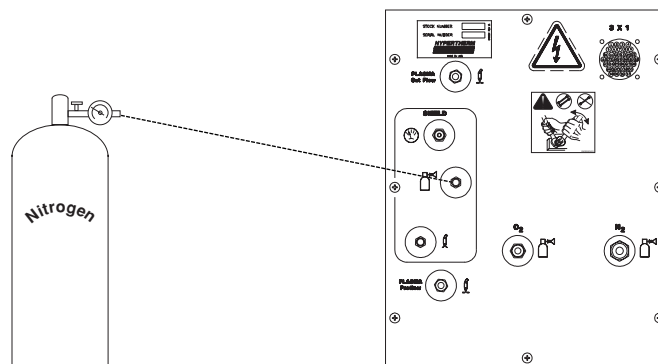

Figure a-5 Nitrogen Supply to Gas Console
- Connect the nitrogen supply to the shield connection at the rear of the gas console. (Figure a-5)